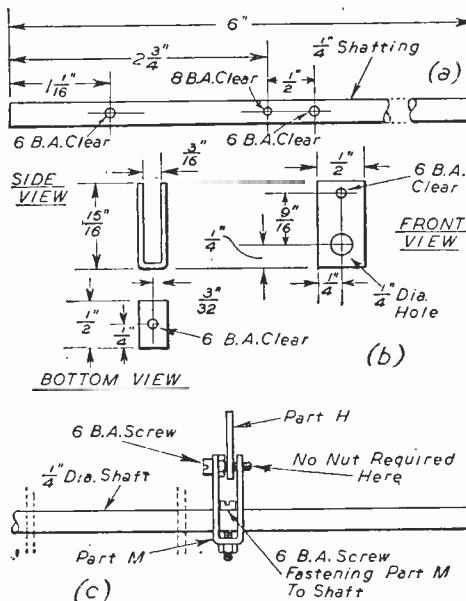

Fig. 15. (a) and (b).—Details of shafting, and its mount. (c) How part M is fixed to the lin. spindle.
14. It is now necessary to cut the $\frac{1}{4}$ in. shafting to length and also to drill a few holes in it. Fig. 15(a) shows how this is done. All the holes are drilled in the same plane. It may be found easier to file a small "flat" at each point where a hole is needed before drilling is commenced.
15. Another part, part M, has now to be made. This is mounted on the $\frac{1}{4}$ in. spindle at the right-hand hole shown in Fig. 15(a) and its dimensions are given in Fig. 15(b).
16. Fig. 15(c) shows how part M is fitted to the spindle and also how part H is fitted to part M. It will be remarked that part H is already fitted to part G; for simplicity, however, part G is not shown in Fig. 15 (c). Fig. 16 shows the relationship between the parts now coupled.
switch to the chassis plate, part J. We now fix a $\frac{1}{4}$ in. bolt to the remaining "6 BA clear" hole in the $\frac{1}{4}$ in. shafting (i.e., the left-hand hole in Fig. 15(a)), so that the threaded part points towards the tuning condenser when the mechanism is in the "locked" position. The spindle of the switch (projecting below the chassis) is fitted with a bush which is locked with a $\frac{1}{4}$ in. bolt. (See paragraph regarding the obtaining or manufacture of these bushes.) When the spindle is turned to the "condenser locked" position the bush is so adjusted on the switch spindle that the $\frac{1}{4}$ in. 6 BA bolt pushes the $\frac{1}{4}$ in. bolt round sufficiently to put the